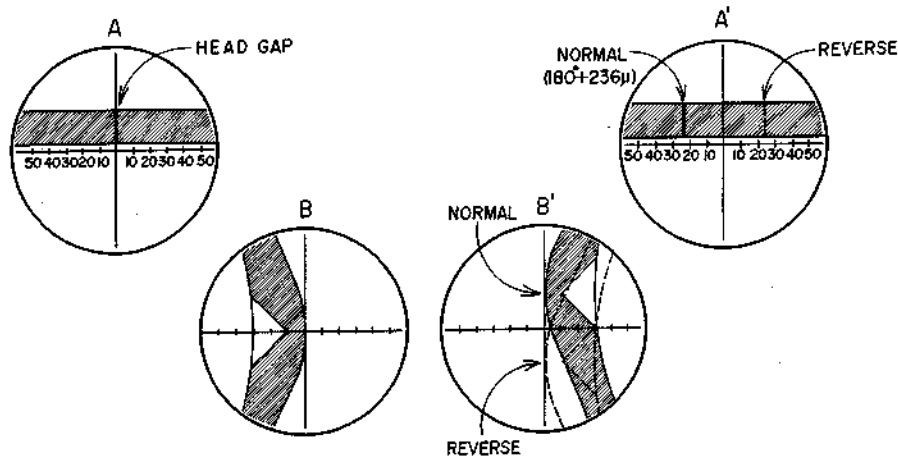

Fig. 1-13 Microscopic Views of Head Tip
- b) Adjust the protrusion of the head tips so that they are aligned with the center line of microscopes (B) and (B') as shown in fig. 1-13.
- c) In case the left hand head gap comes above the center line of microscope (A), adjust by bringing the right hand head gap $236 \mu (\pm 10 \mu)$